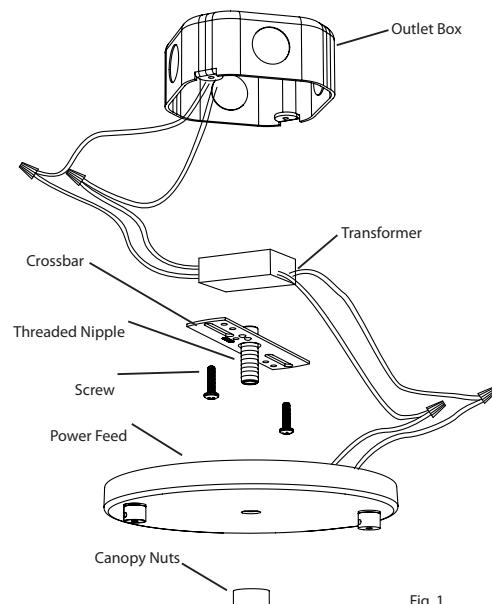

Fig. 1
#### Shallow Power Feed Installation (Fig. 1):
3. Cut an opening in the mounting surface (minimum 3/8" thick) that measures 1.5" wide by 2.75" high (Fig. 1).
4. Pull **1/2 trade size flexible metal conduit or building cable** through the opening (Fig. 1).
5. Remove the three **Phillips Screws** and separate the Minibox into **Upper** and **Lower Halves** (Fig. 1).
6. Remove the knockout tab from the **Upper Half** and attach the **Cable/Conduit** to the knockout opening using appropriate connectors (Note: Cable/Conduit and connectors not included) (Fig. 1).